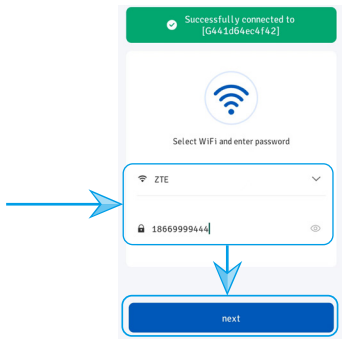

Figure 31
05. After selecting or entering the WiFi name, enter the correct password and tap "Next", as shown in Figure 31.